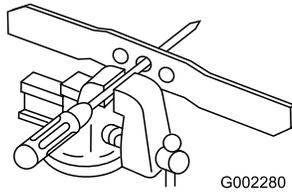

Figure 23
1. Check the balance of the blade by placing the center hole of the blade over a nail or screwdriver shank clamped horizontally in a vise (Figure 23).